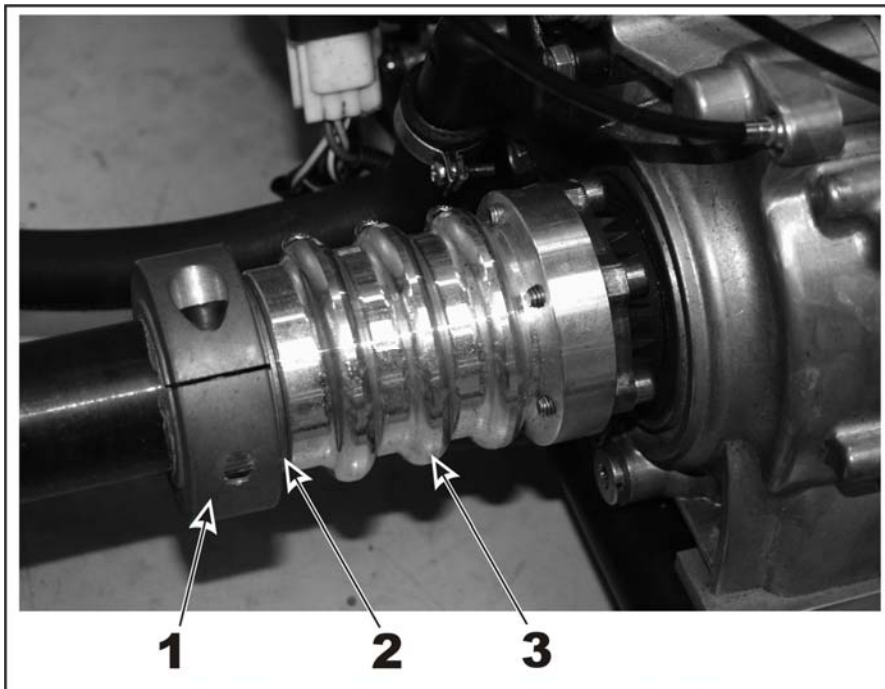

Fig. 4
- ➔ Slide the overload clutch, thrust washer and clamp ring on block to the hollow shaft and clamp it to the rear axle. see Fig.4